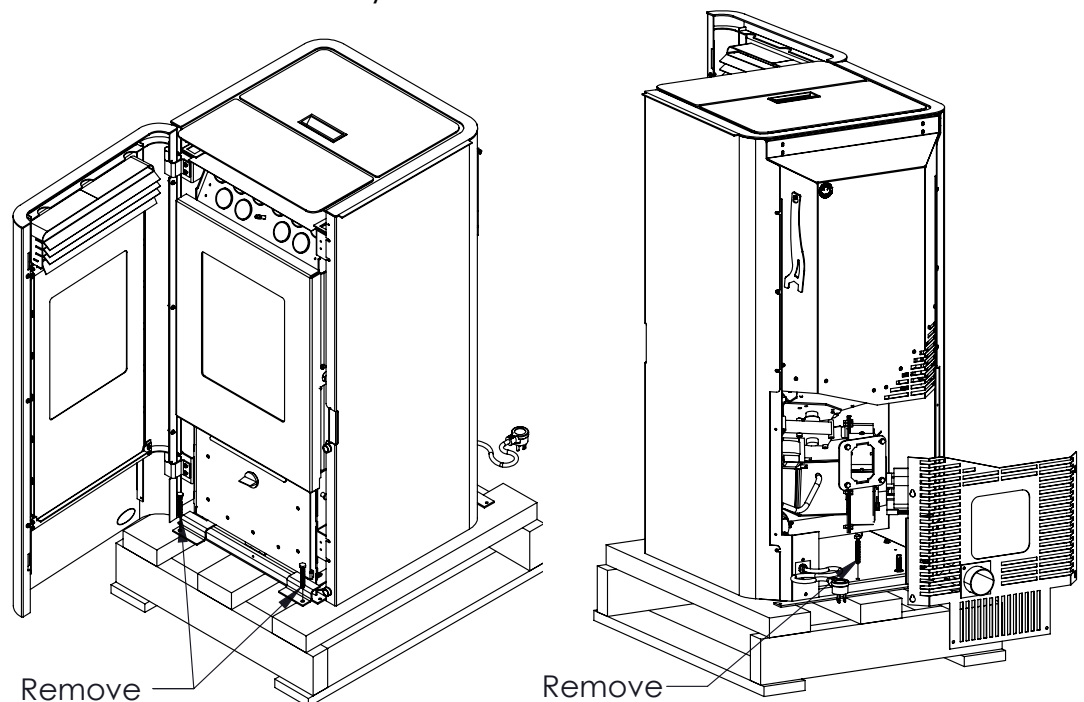

Figure 1: Shipping Bolt Removal
4. Use a 7/16 wrench or socket to remove the three shipping bolts holding the unit to the pallet, see Figure 1.